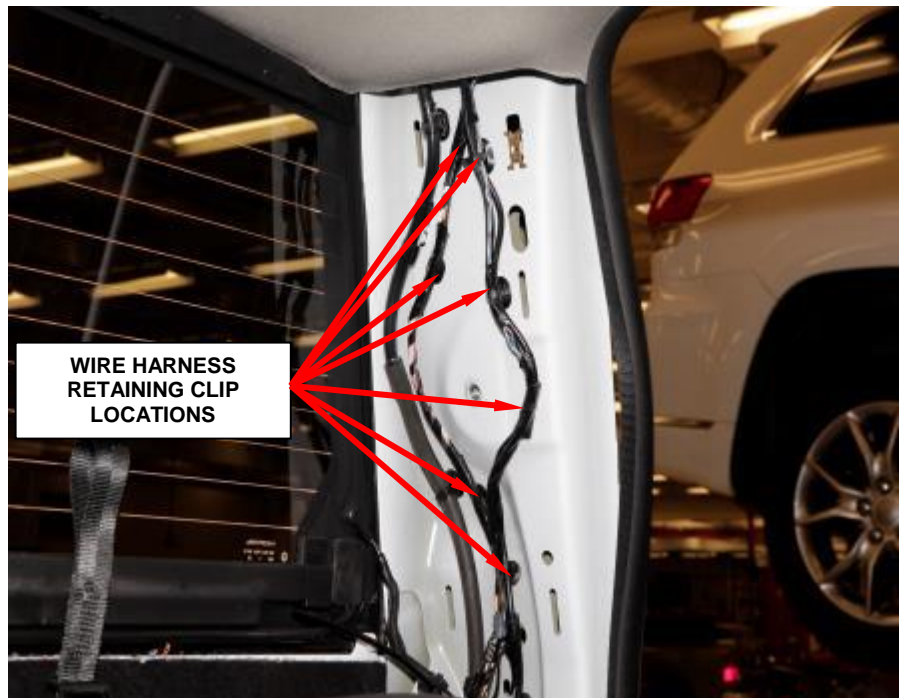

Figure 19 – C-Pillar Wire Harness
- 30. Release the wire harness retaining clips from the right and left C-pillars (Figure 19).
8. Install the wire harness retaining clips on the right and left C-pillars (Figure 19).